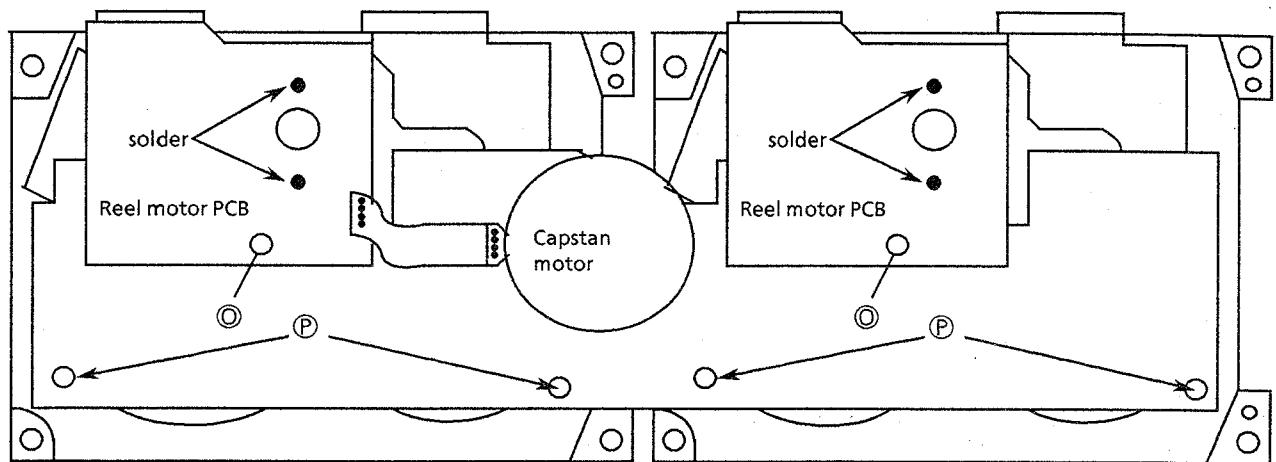

Fig. 9 Rear view of the cassette mechanism
3. Remove the screws \odot fixing the reel motor circuit boards (Fig.9).
4. Remove the 4 screws \oplus fixing the bracket on which capstan motor is installed (Fig. 9).
4. Remove the 4 screws ② fixing the bracket (Fig. 9).